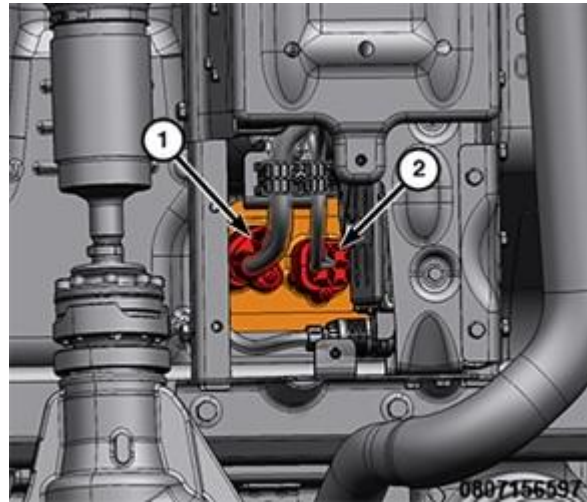

**Figure 23 – HV Battery Wiring Connectors**
17. Disconnect the HV wire harness connectors (1) and (2) from the HV battery (Figure 23).